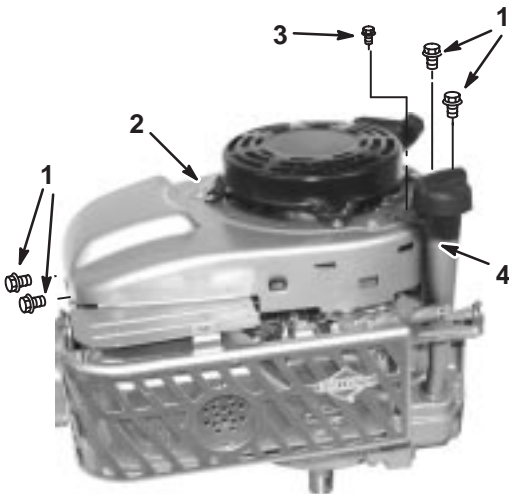

Fig. 37 – Removing Dipstick and Oil Fill Tube, Blower Housing and Rewind Starter
3. Remove dipstick and oil fill tube, Fig. 37.
4. Remove blower housing and rewind starter, Fig. 37.